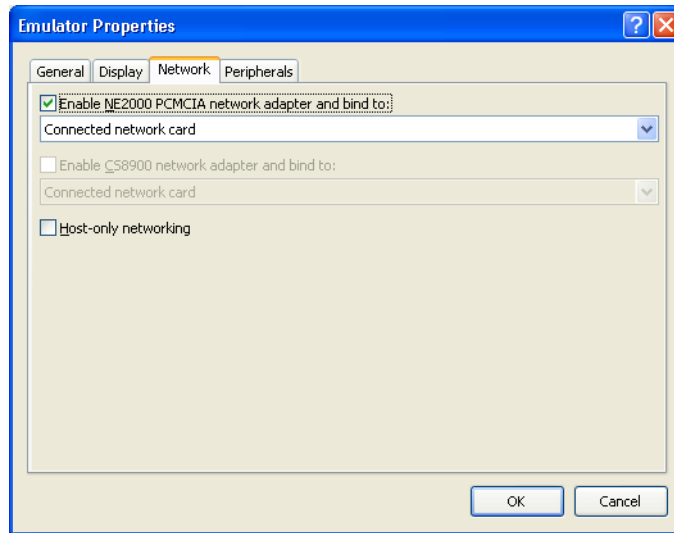

Figure 2-10 Device Emulator network options
5. Select the Enable NE2000 PCMCIA Network Adapter And Bind To check box, then select the Connected Network Card option from the list box, as illustrated in Figure 2-10, and then click OK.